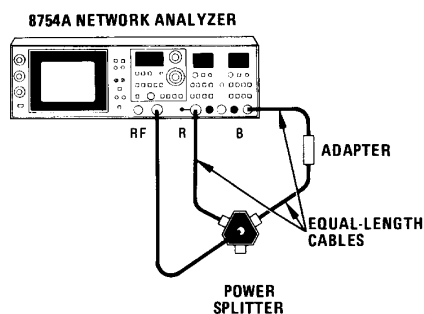

Figure 5-38. Reference Adjustment Test Setup
Equipment is for two adjustment test setups, Figures 5-38 and 5-41.
- a. Connect equipment as shown in Figure 5-38. Verify that A10S1 INTEG-TEST switch is in the INTEG position.